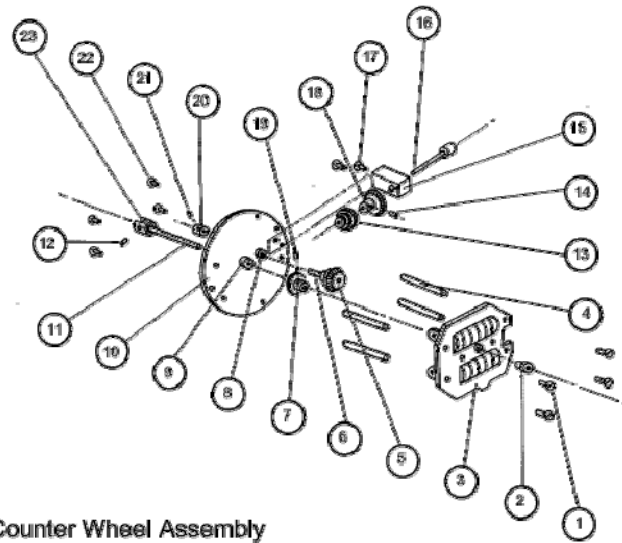

Figure 2 - Counter Wheel Assembly
1. Undo the four screws (item 1) and remove the clamp ring (item 2)
2. Remove the glass cover (item 4) and inspect the seal (item 3) for damage, replace if necessary.
3. Carefully remove the plastic pointer (item 5) so as not to damage the stem which is a push fit onto the needle shaft (item 11, refer figure 2).
4. Undo the register face screws (item 6) and remove the register face.
5. Undo the screws (item 8) and remove register mechanism tilting slightly so as to clear the reset arm (item 18) and shaft collar (item 20).
6. To remove the reset arm, undo grub screw (item 23) and remove the reset knob (item 21). Slide the reset arm from the housing being careful not to loose or damage the o-ring (item 22). Inspect o-ring for damage, replace o-ring if necessary.
2. Undo grub screw (item 14) to enable the shaft coupling (item 12) to be withdrawn from encoder shaft (refer item 16, figure 2).
3. Undo two socket head cap screws (item 9) and slide encoder housing away from register housing. If it is necessary to remove the encoder coupling (item 12) from the encoder, record the distance the coupling is from the face of the encoder so it can be replaced in the same position. This is important to prevent overloading of the encoder bevel drive gears.
Refer to figure 2 unless otherwise stated